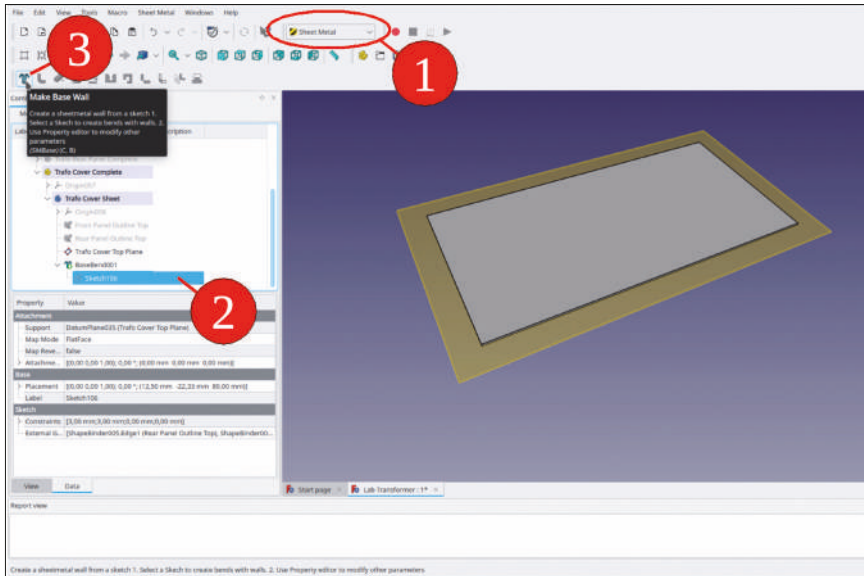

Figure 9-114
16. In the tree view, mark the new sketch and click the 'Make Base Wall' tool button (Figure 9-114).